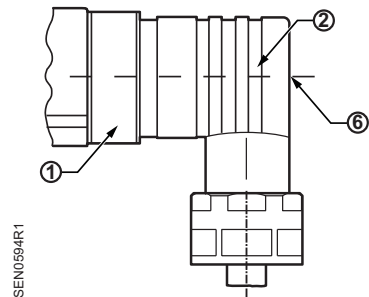

Figure 11.
- Plug the cable socket ② on the connector ① and retighten the central screw ⑥. See Figure 11.